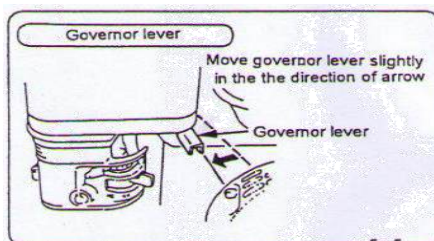

fig. 5
3. Turn governor lever slightly to high speed side. (Fig.5)
1. Opening the governor lever sharply causes the compactor to start working (Fig. 5)
4. To discontinue your work, contrary to the starting time, return the governor lever quickly to LOW position. Do not move it slowly. (Fig. 5)